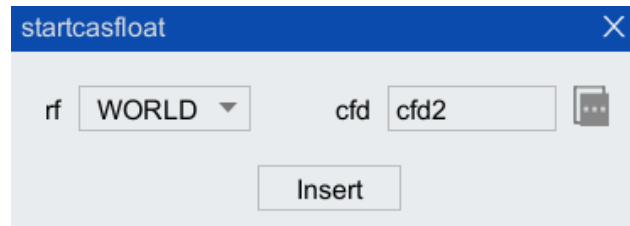

Figure 5-11 Parameter configuration interface
Step2. The configuration interface shown in Figure 5-11 will pop up, and configure [rf] as "FLANGE".